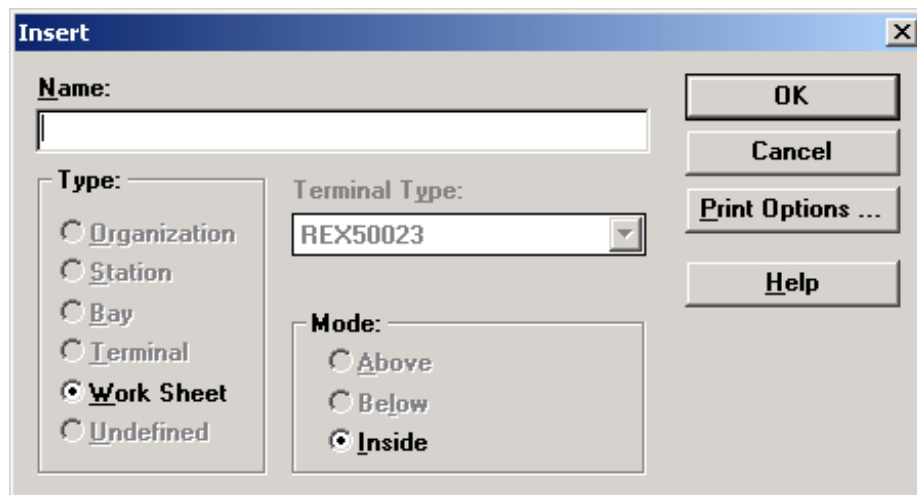

Fig. 3 Insert dialog box.
- 2 Select the 'Insert' icon on the toolbar. A dialog box appears, see Fig. 3.